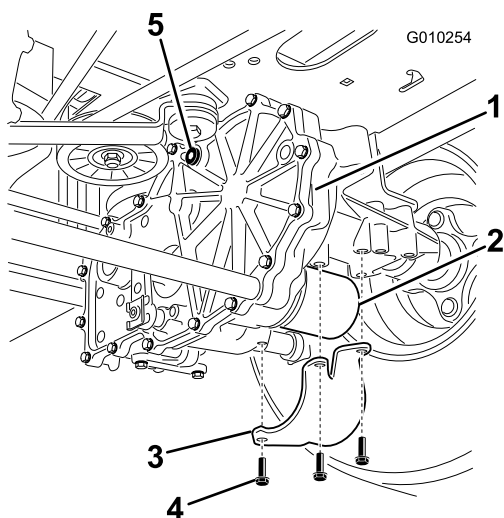

Figure 64
6. Locate the filter and guards on each transaxle-drive system (Figure 64).
7. Remove the 3 screws securing the filter guard and remove the guard (Figure 64).
4. Install the filter guards over each filter that you previously removed (Figure 64).
5. Use the 3 screws to secure the filter guards (Figure 64).
3. Install the vent plug (Figure 64).